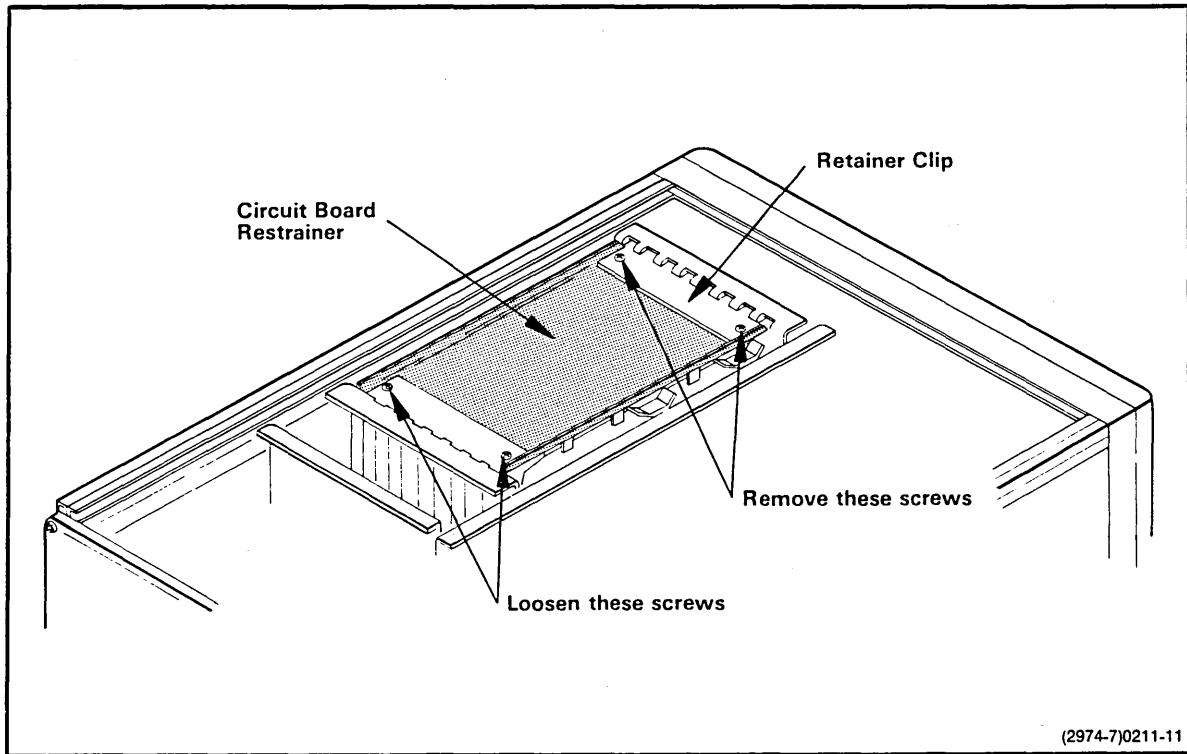

Fig. 5-5. Removing the 8560 circuit board restrainer.
4. Remove the two screws on the other end of the restrainer and carefully remove the retainer clip. (See Fig. 5-5.)